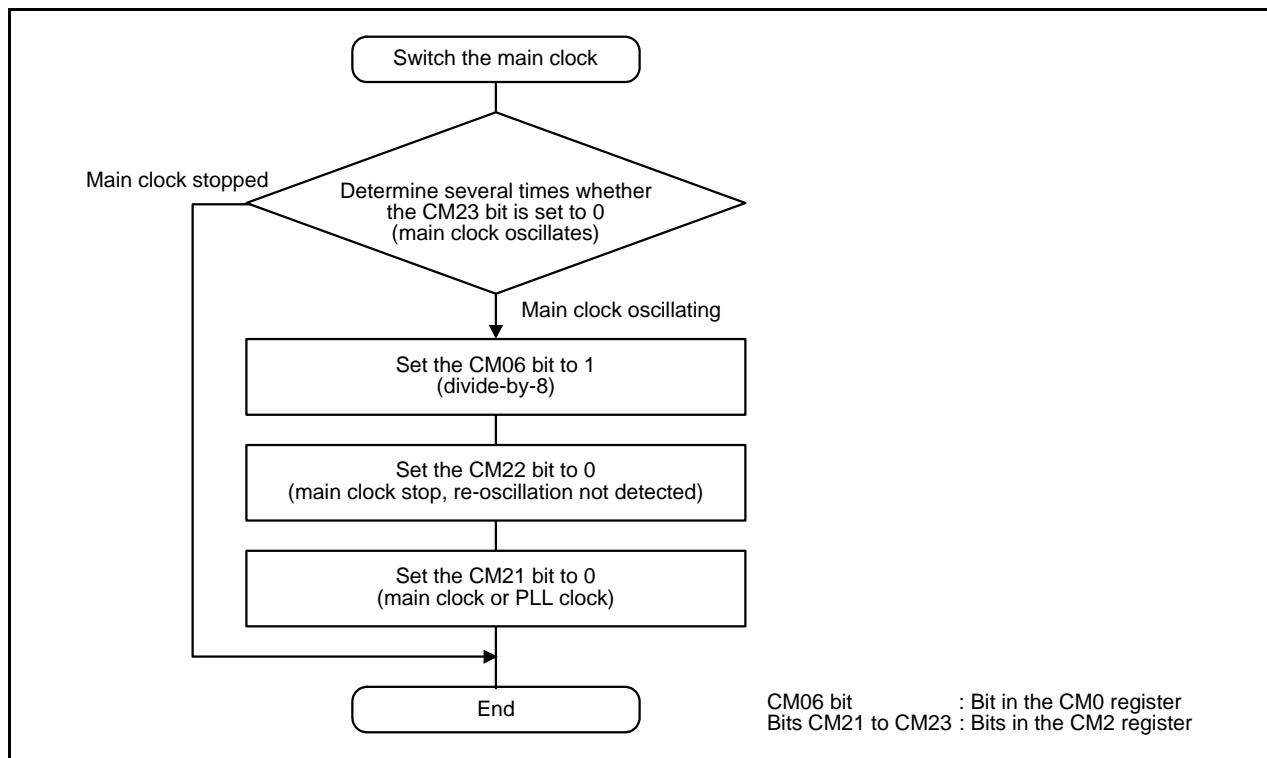

Figure 8.6 Procedure to Switch Clock Source from On-Chip Oscillator to Main Clock
- After oscillation stop is detected, if the main clock re-oscillates, set the main clock back to the clock source for the CPU clock and peripheral functions by a program. Figure 8.6 shows the Procedure to Switch Clock Source from On-Chip Oscillator to Main Clock.